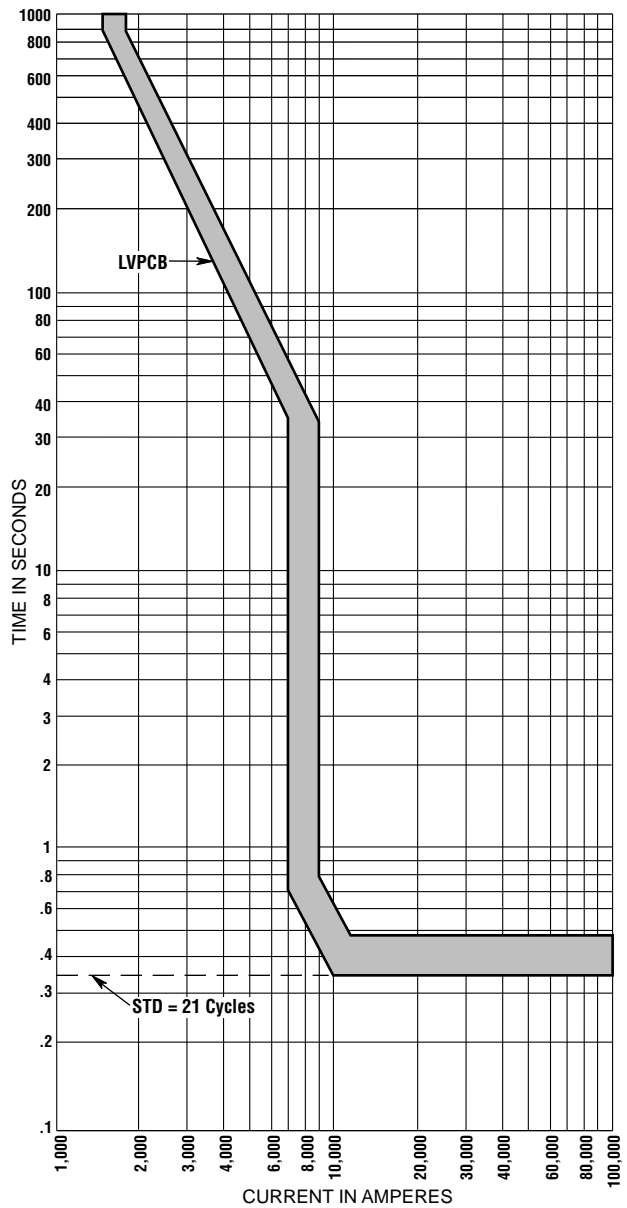

Figure 5
5. Short Time Delay And Instantaneous Override - Circuit breaker short-time-delay (STD) mechanisms allow an intentional delay to be installed on Low Voltage Power Circuit Breakers (Figure 5). Short-time-delays allow the fault current to flow for several cycles, which subjects the electrical equipment being protected to unnecessarily high mechanical and thermal stress. Most equipment ratings, such as short-circuit ratings for bus duct and switchboard bus, do not apply when short-time-delay settings are employed. The use of short-time-delay settings on circuit breakers requires the system equipment to be reinforced to withstand the available fault current for the duration of the short-time-delay. Ignoring equipment ratings in relation to the protective device opening time and let-thru characteristics can be disastrous.